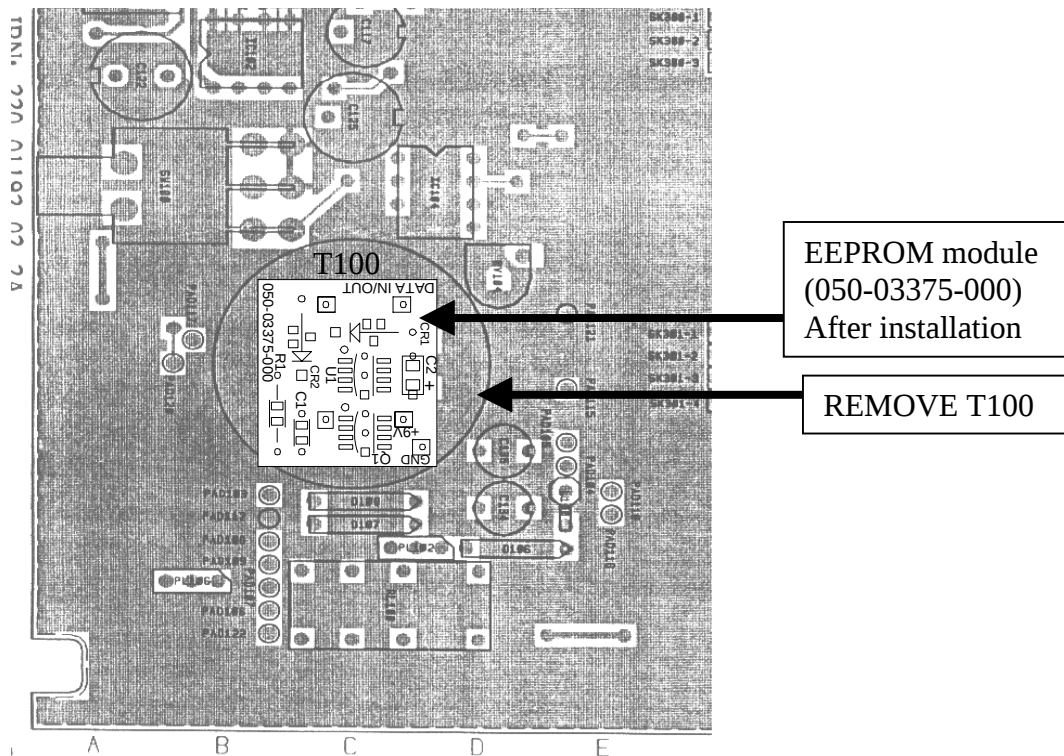

Figure 1 - T885 Receiver PCB, Top side (EEPROM Module). 1/3
3. On the top side (handle side), locate and remove the transformer T100 from the audio processor circuit. Refer to Figure 1, page 4.
4. On the top side (handle side), place and solder the EEPROM board at the same location of T100. Make sure not to invert the PCB position. Refer to Figure 1, page 4.